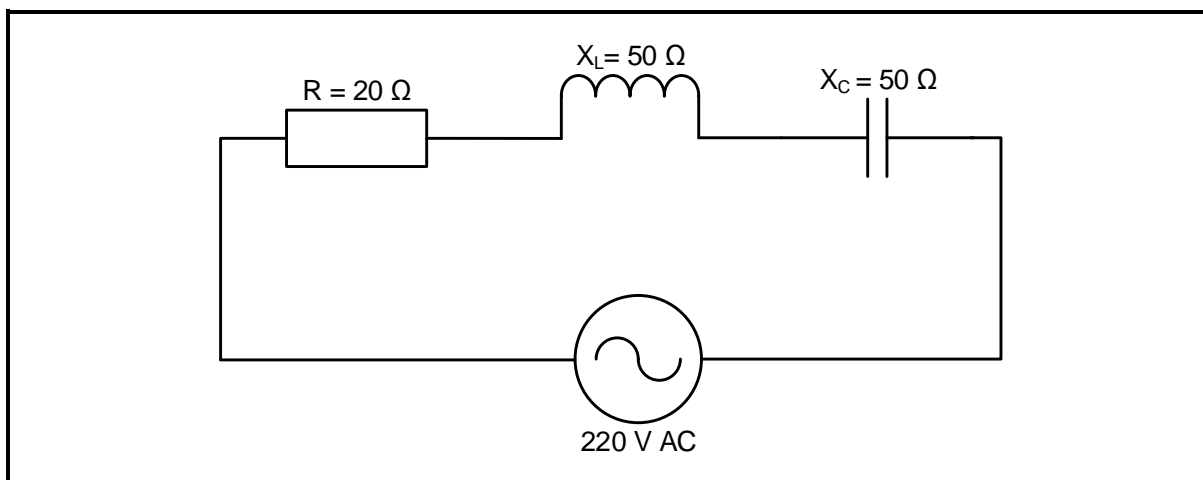

FIGURE 3.5: RLC SERIES CIRCUIT
3.5 Refer to FIGURE 3.5 below and answer the questions that follow.
- 3.5.4 Explain why the phase angle of the circuit in FIGURE 3.5 would be zero. (2)